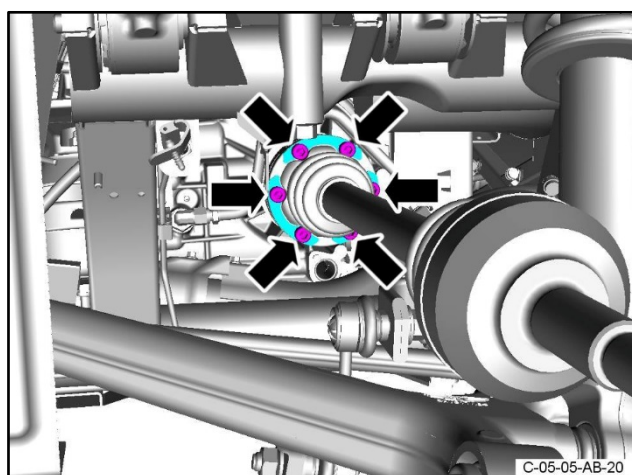

Figure 60
- 117.** Put the left side drive shaft flange in position on the transaxle shaft (refer to Figure 60). Align the marks on the drive shaft flange that you made during step 23.